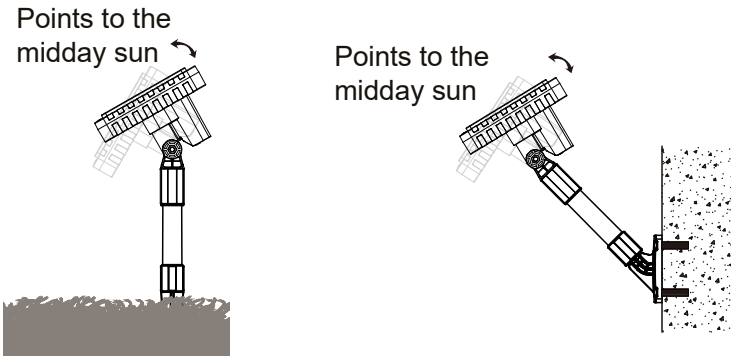

Figure 3
- 3) Point the solar panel towards the midday sun to maximize its exposure to the sunlight throughout a day as shown in **Figure 3**. Lock the joint by tightening the hex socket nut with the enclosed allen wrench when needed.